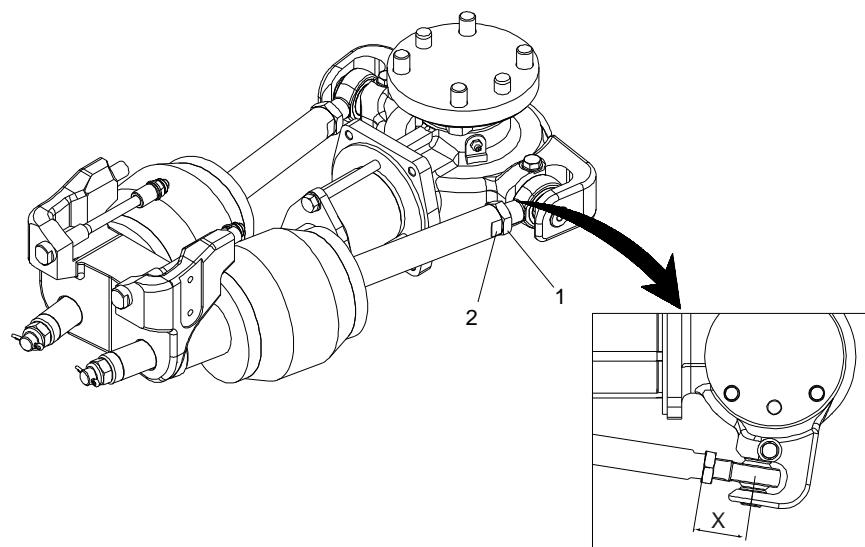

Figure 7-38: Adjustment of Centering
**THE DISTANCE X IN FIGURE 7-38 MUST UNDER NO CIRCUMSTANCES EXCEED 70 MM.**
1. Loosen the nut (1) on both dampers. See Figure 7-38.
2. Turn the key handle (2) on both dampers the same number of turns. Clockwise to raise the coupler and counter clockwise to lower it.
3. Tighten the nut (1) after adjustment.